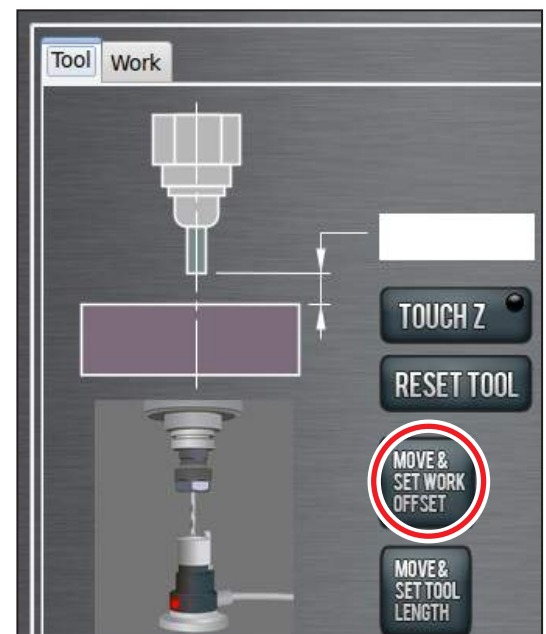

Figure 8.26
1. Click *Offsets* tab, then *Tool* tab (see **Figure 8.26**).
5. Click *Move & Set Work Offset* (see **Figure 8.26**).